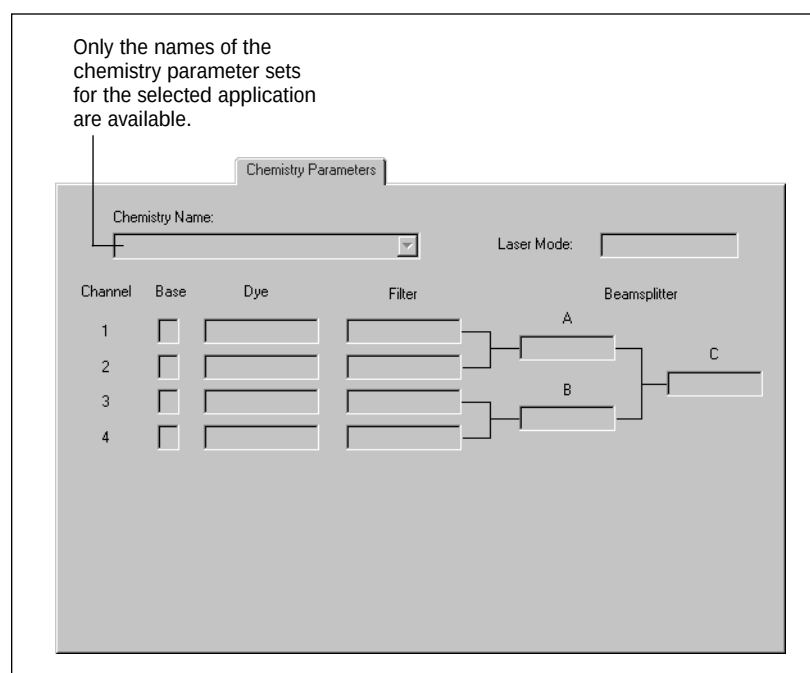

Figure 3-1. The Chemistry Parameters tab of the Plate Setup window (sequencing and STR genotyping) or the Plate Set Setup window (SNP genotyping).
If you turn on the edit mode, an operator can select the chemistry name in the Plate Setup window (sequencing and STR genotyping) or the Plate Set Setup window (SNP genotyping). Only the names of the chemistry parameter sets for the selected application appear in the Chemistry Name list in the Chemistry Parameters tab (figure 3-1).
5. Verify that the changes appear in the Chemistry Parameters tab (figure 3-1). If the name for a new or revised chemistry parameter set does not appear in the Chemistry Name list for the selected application, check the parameters in the Chemistry.ini file for syntax errors.